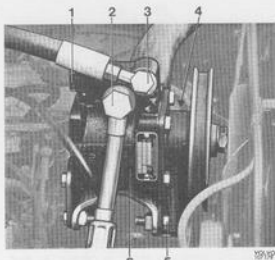

Fig. 6-103. Power pump, fitted
1. Clean round the connections (at 2 and 3, Fig. 6-103).
2. Disconnect the suction line (2) and collect the oil running out.
3. Disconnect the delivery line (3), and unscrew the tensioning bolt (4) and the attaching bolts (5). Protect the nipples and connections from dirt.
Concerning replacement of pump, supplement the new pump with brackets, pulley and other parts, see Fig. 6-103. When fitting the pulley, the tolerances may be such that the pulley cannot be pressed on by hand. In these cases, press on the pulley with care. It must not be hammered on, otherwise the bearings might easily get damaged, this resulting in noise in the pump.
2. Fit the attaching bolts and other components, see Fig. 6-103. Tension the drive belt so that it can be pressed in about 5 mm (3/16") halfway. Tighten the bolts and the connections.